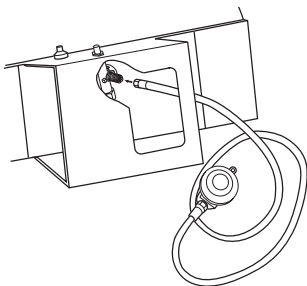

Figure 7 - Hose and Inlet Connector
3. Connect hose to valve inlet. Tighten firmly using a wrench (see Figure 7).